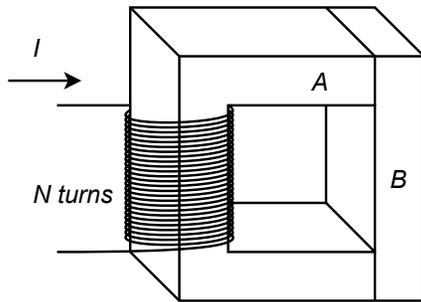

Figure 10.2
7. In the magnetic circuit shown in Figure 10.2, assume the cross section is 1 cm by 1 cm. Section A is sheet steel with a path length of 6 cm. Section B is cast steel with a length of 2 cm. There are 500 turns on the winding. Determine the current to establish a flux of  $5E-5$  webers.
8. In the magnetic circuit shown in Figure 10.2, assume the cross section is 1 cm by 1 cm. Section A is sheet steel with a path length of 6 cm. Section B is cast steel with a length of 2 cm. Determine the number of turns on the coil to establish a flux of  $6E-5$  webers with a current of 50 mA.